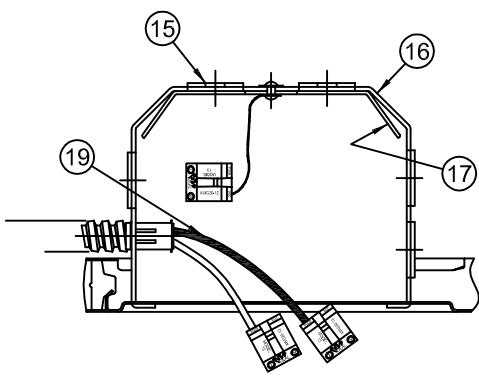

FIG.4
3. Locate Housing along Bar Hanger in desired position and, using pliers, squeeze the 4 Locking Tabs (12) on the Plaster Frame (13) tightly over the Bar Hangers to prevent further Housing movement. Screws (1) are provided that can be tightened to lock Housing on the Hanger Bars.
4. As desired, hanger bars (6) may be shortened at score mark to fit tight mounting conditions and joist alignment tabs removed to adjust vertically as needed by breaking off with pliers.
5. Unsnap Junction Box Cover (14) by lifting the Leaf Spring (24).
6. Run supply wires through UL Listed connectors (not supplied) in one of the five Pryouts (15) on the Junction Box (16) or Type NM cable (ROMEX) through an Opening above the Wire Retaining Plate (17). Connect Supply Wires (19) as shown in Fig 4 & 5. Replace Cover.
5. Ouvrir le couvercle de la boîte de jonction (14) soulevant le ressort à lames (24).
6. Faites passer les câbles d'alimentation à travers les connecteurs homologués UL (non inclus) dans une des cinq pièces amovibles (15) sur la boîte de jonction (16) ou faites passer un câble du genre NM (ROMEX) par l'ouverture au-dessus de la plaque de blocage à câbles (17). Relier les câbles d'alimentation (19) selon les Figures 4 et 5. Replacer le couvercle.